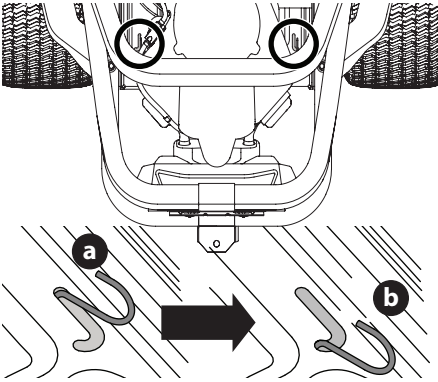

Fig. 1
1. To engage the transmission bypass rods, pull the rod back (a) and into lower section of "J" slot (b). Repeat on opposite side (Fig. 1).